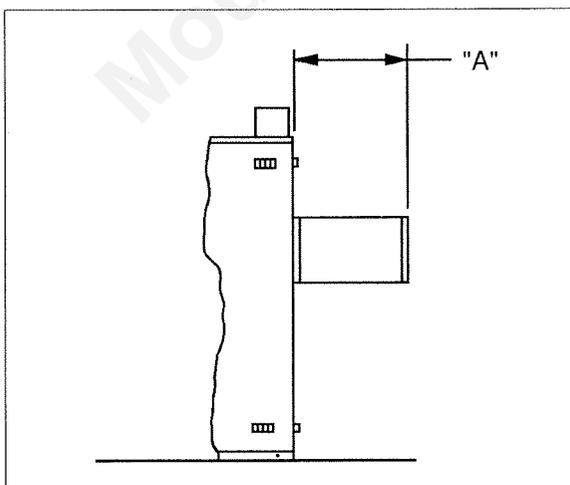

Figure 5
If the wall thickness is 4 1/2", no other sections are needed. For thicker walls, slide the next section onto the first section until proper length is attained as shown in Figure 5 and Table 1. A 2" overlap must be maintained, and the outer pipe sections must be drilled and screwed in (3) places. Proceed to STEP 6.